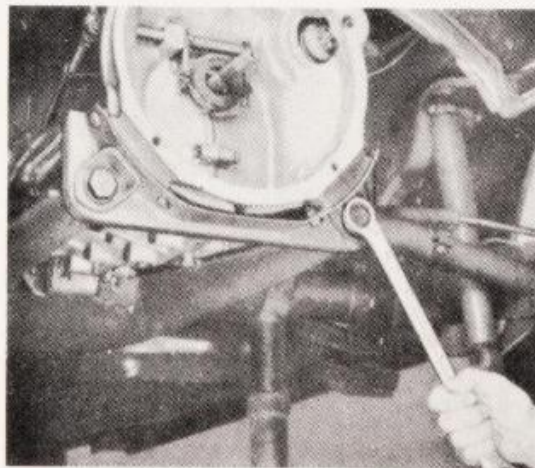

Fig. M-4. Removal of transmission carrier bolts.
- 11 - Remove transmission carrier bolts, Fig. M-4.